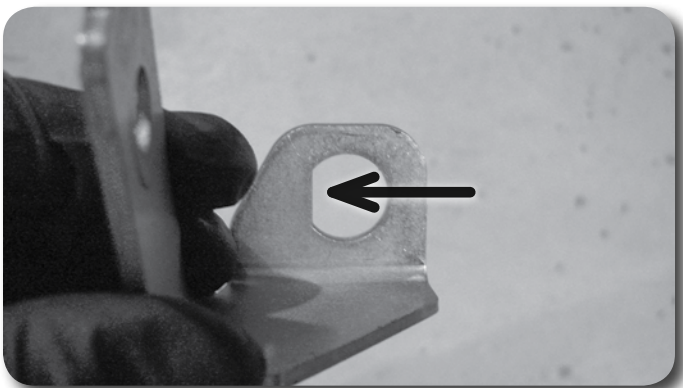
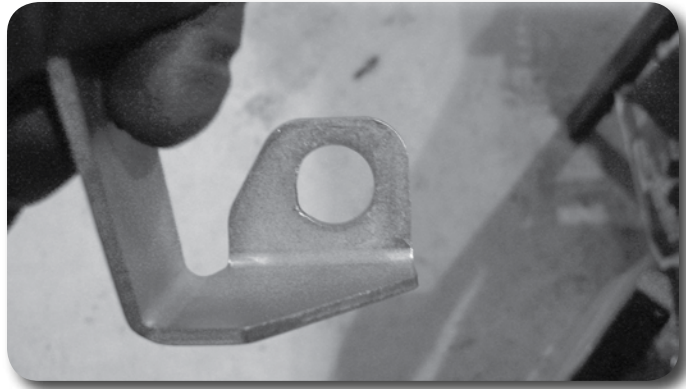
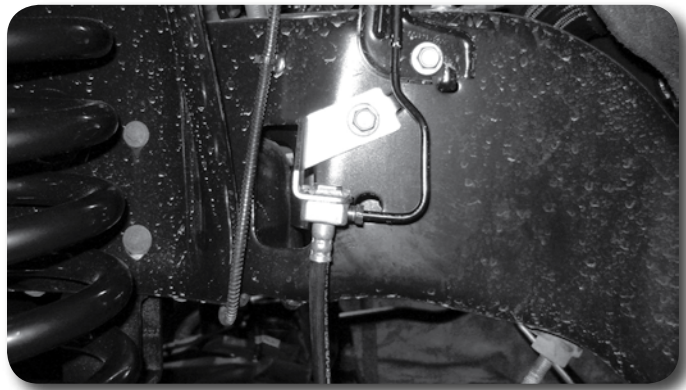

Figure 16A
Figure 16B
Figure 16C
33. Remove the factory front brake line brackets from the frame. The brackets have a squared edge in the brake line mounting hole. **Figure 16A** Using a file or rotary grinder, remove the square edge to form a complete round hole. **Figure 16B** Reattach the brackets to the frame tighten securely with the factory hardware. Install the brake line junction in the bracket from the bottom and fasten with the factory retaining clip. **Figure 16C**